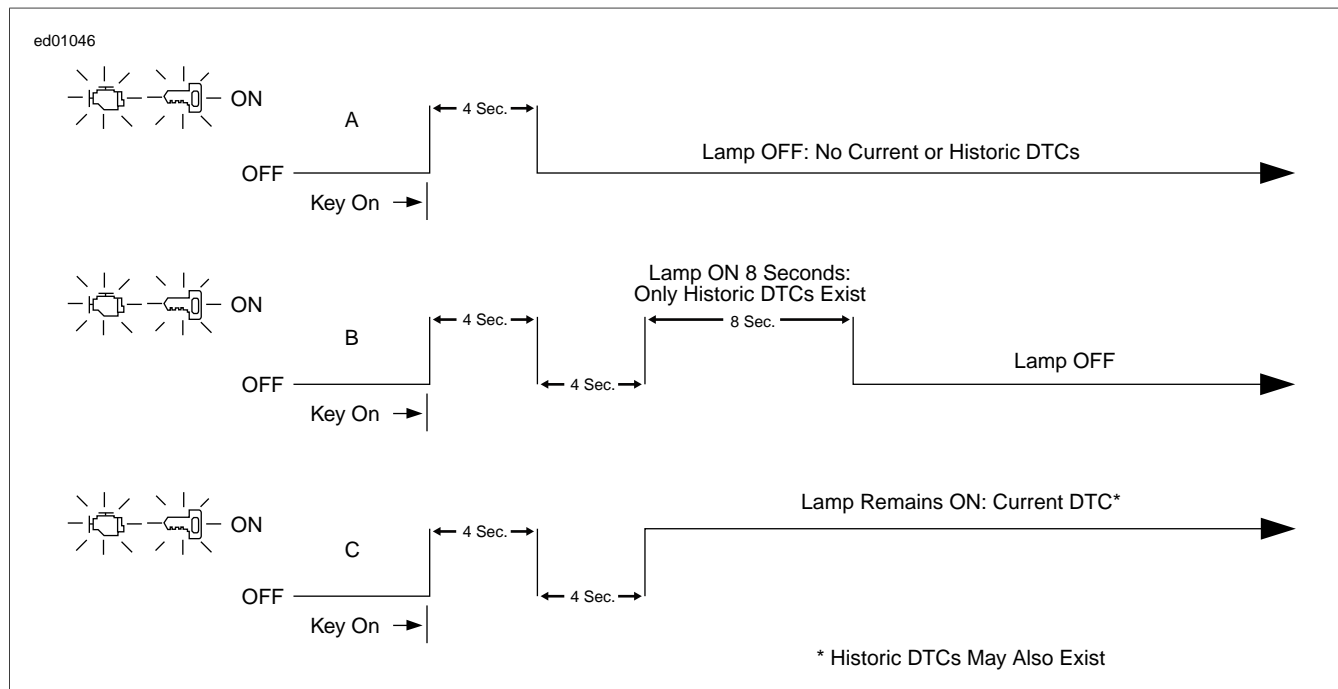

Figure 4-6. Check Engine Lamp Operation
See Figure 4-6. The check engine lamp indicates the ECM has determined a fault condition exists. There may also be starting or performance problems.
1. See Figure 4-6. When the lamp turns off after being illuminated for the first four second period, it will:
Historic codes are stored for a length of time to assist in the diagnosis of intermittent faults. See Figure 4-6. The check engine lamp will come back on for eight seconds to indicate the existence of only historic codes.